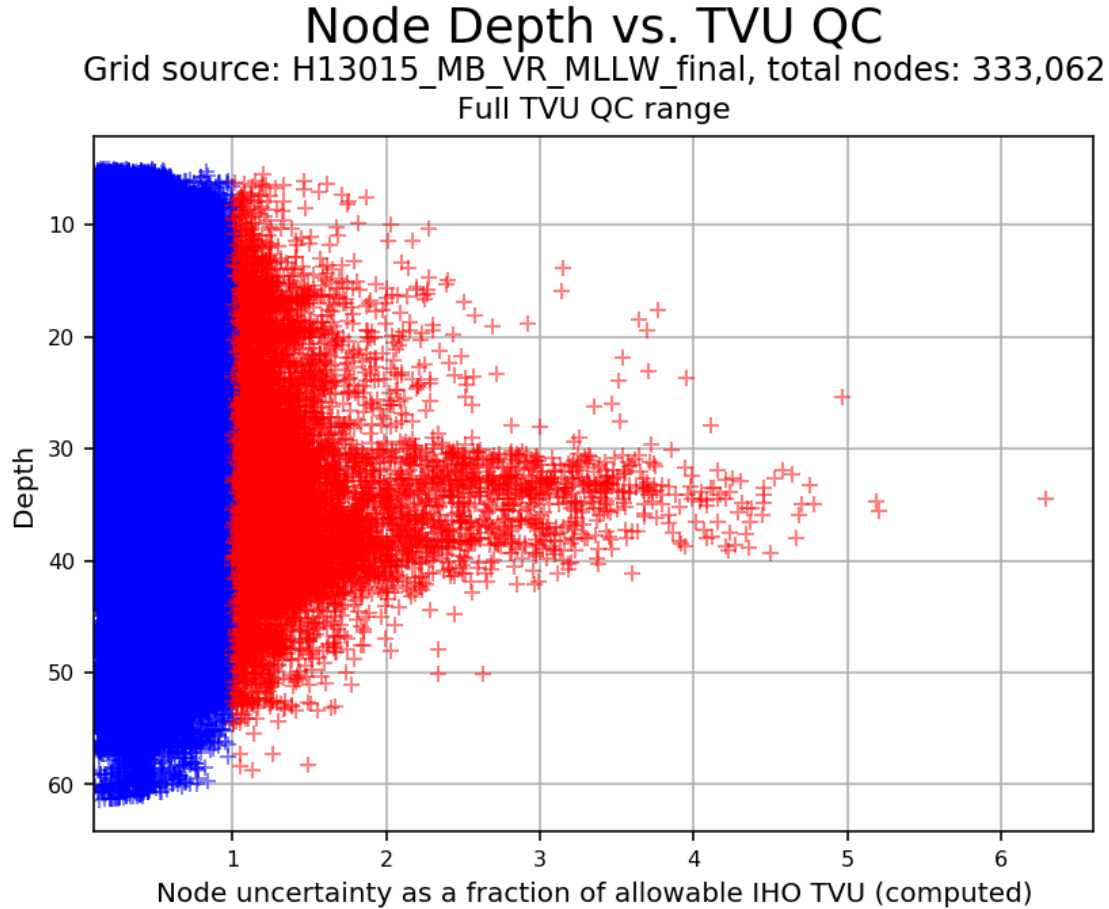

Fig. 2.32: A plot of every node represented in the surface in plotted as its depth on the y axis and its uncertainty as a fraction of the IHO TVU on the x axis.
- Node Depth vs. TVU QC (Fig. 2.32).